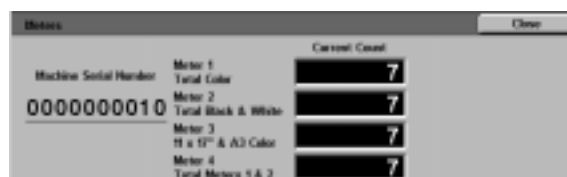

Figure 3: Meters screen
- 2 Touch the **Meters** icon to display the Meters screen, as illustrated in Figure 3.